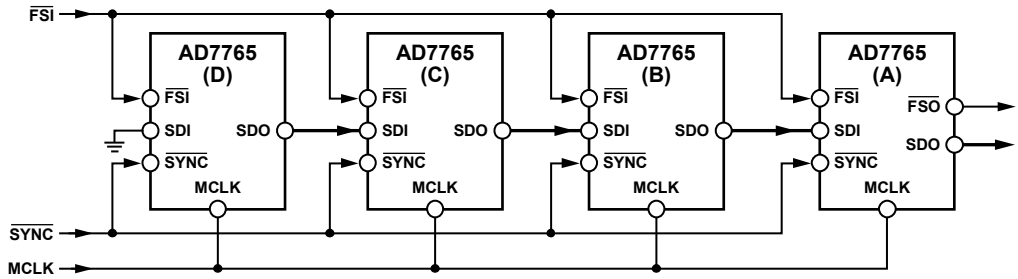

Figure 34. Daisy-Chaining Four Devices in Decimate 128× Mode Using a 40 MHz MCLK Signal
The block diagram in Figure 34 shows how to connect devices to achieve daisy-chain functionality. Figure 34 shows four AD7765 devices daisy-chained together with a common MCLK signal applied.
Referring to Figure 34, note that the SDO line of AD7765 (A) provides the output data from the chain of AD7765 converters. Also, note that for the last device in the chain, AD7765 (D), the SDI pin is connected to ground. All of the devices in the chain must use common MCLK and SYNC signals.